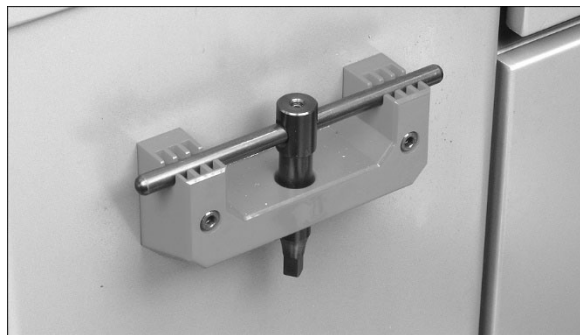

Figure 9-4
21. **Chuck Key Bracket:** The chuck key must be placed within the bracket (Figure 9-4) for the lathe to operate. A sensor in the bracket will deactivate spindle if key is not present – this prevents key from accidentally being left in the chuck.